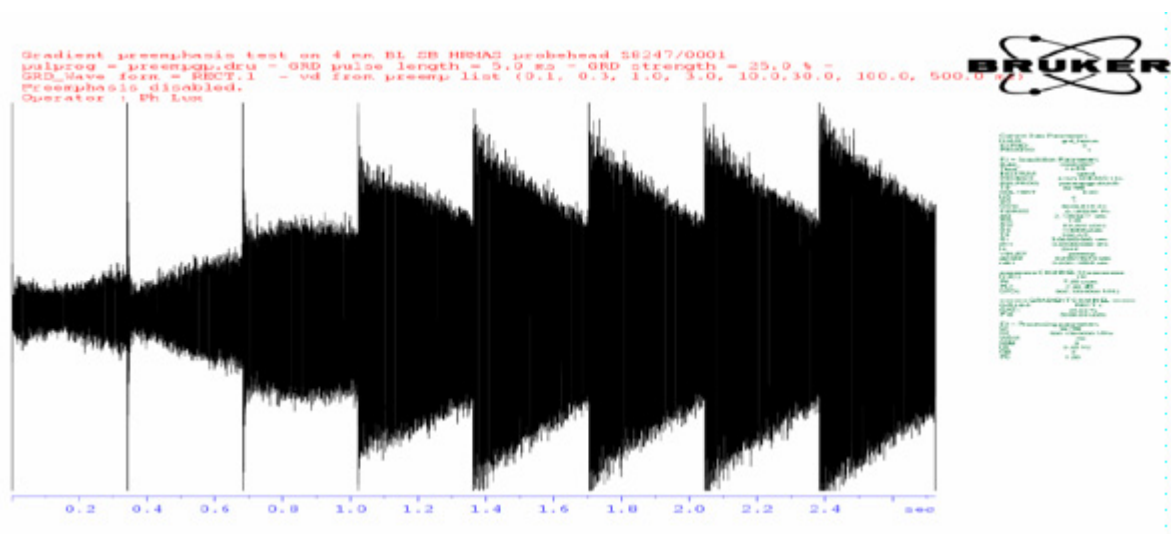
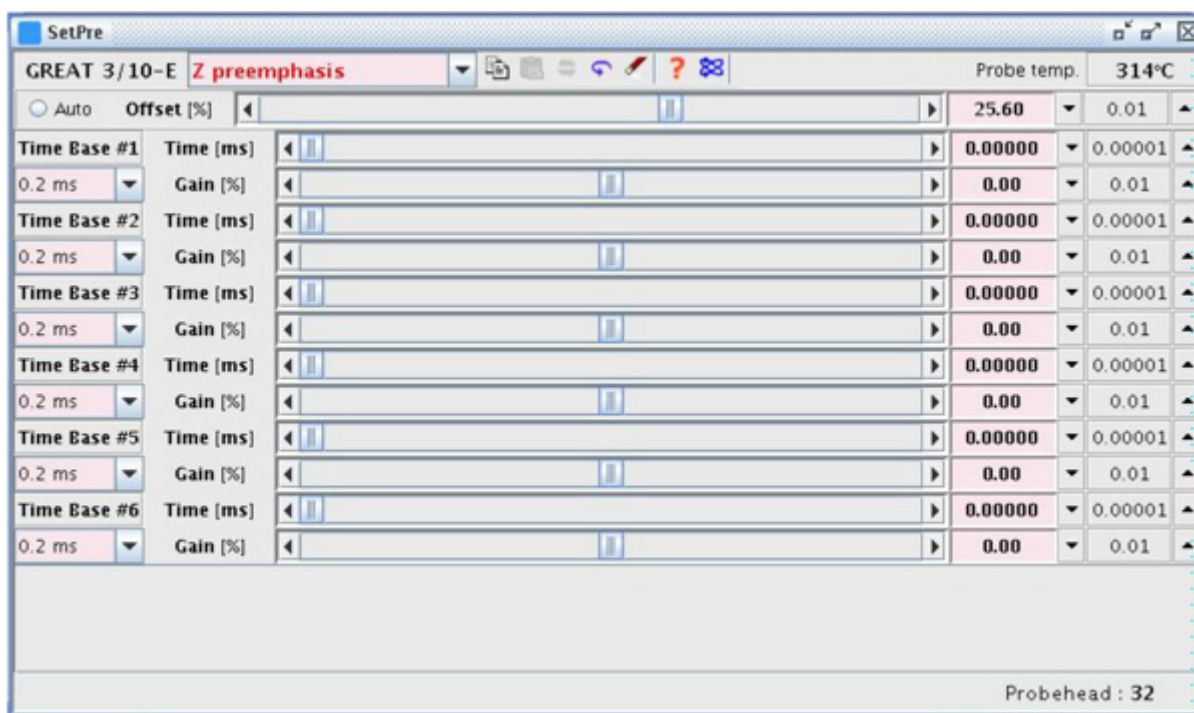
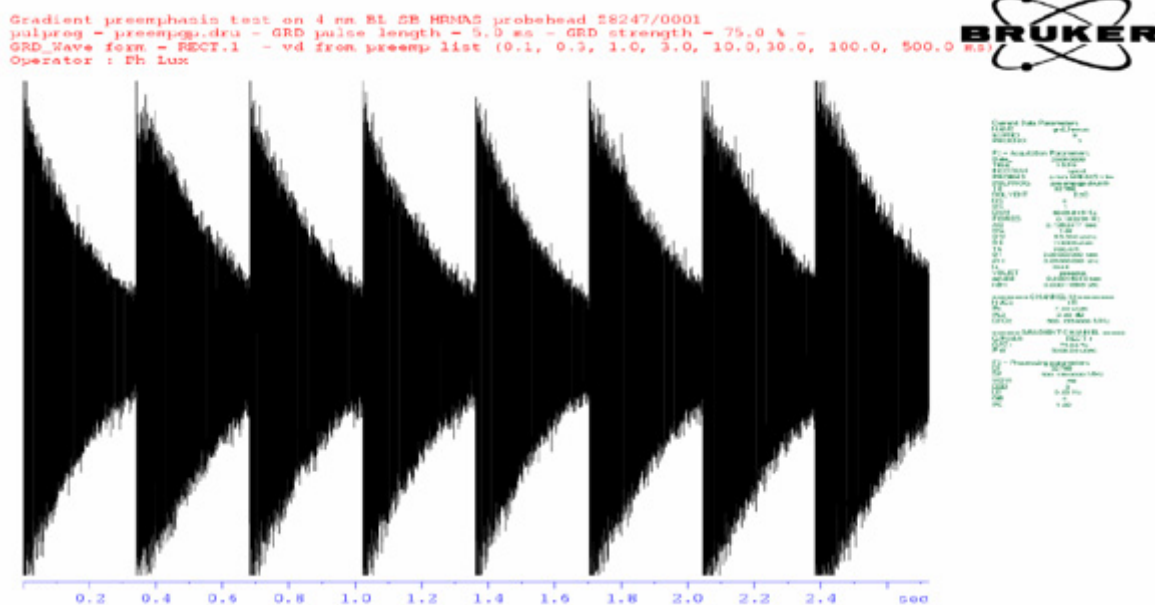

Figure 6.3. Gradient Pre-emphasis test **without pre-emphasis compensation** as obtained with an HR-MAS probe with square gradient pulses.
Figure 6.4. Display of the Main Window of the “setpre” Interface Showing the Pre-emphasis Sliders used for Eddy Current Compensation.
Figure 6.5. Gradient Pre-emphasis Test with Pre-emphasis Values Adjusted as Obtained with an HR-MAS Probe with Square Gradient Pulses.
Two other parameters (the regulation current R and C parameters) may be different if the GREAT is used with X,Y,Z HR gradient coils or Z HR-MAS gradient coils. The default values (R = 74,9 % - C = 13,9 %) have to be used with probes having a Z gradient coil. In this case, you may start an acquisition using the **preempgp2.tst** pulse program (Standard ¹H acquisition parameters with GRD_LENGTH (p16) = 2 ms, GRD_WAVE_FORM (GPNAM 1) = RECT.1, GRD_STRENGTH (gpz1) = 50 %, GRD_RECOVERY (d16) = 100 ms). Before starting the acquisition with “zg”, you have to connect the GREAT Monitor Output (5) on an external electronic device like an oscilloscope. **If the test is done when the GREAT is used together with the Digital Pre-emphasis Processor (DPP) board, be sure that all the pre-emphasis Gain values are set to 0** (see Figure 6.4, setpre section).
The experiments (see **Figure 6.3.**) have been recorded with standard proton parameters on a 4 mm standard bore HR-MAS probe with Z gradient coil using the 2 mM sucrose in D₂O rotor.
The pre-emphasis adjustment is done inside of the setpre interface (see Figure 6.4). The longest time constant in the example shown in Figure 6.3, is smaller then 50 ms.
If the pre-emphasis values are adjusted, the 8 FID display (see Figure 6.3.) will look like Figure 6.5. The results should be the same at every gradient strength.